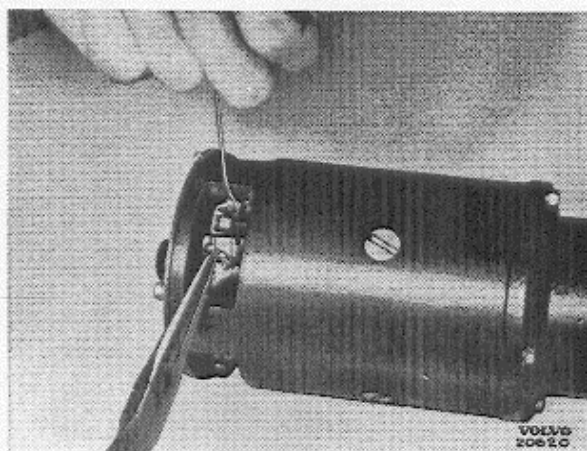

Fig. 42.
3. Lift the carbon brush springs and then pull them up, Fig. 42.
2. Lift the carbon brush springs and pull them up, compare with Fig. 42.